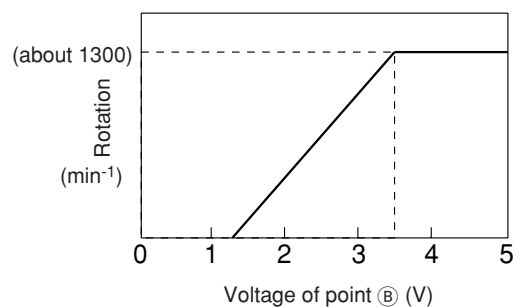

Fig. 6-3
- This pulse changes to analog voltage by R751 and C751 and it is applied to the fan motor as instruction voltage number of rotations. The relationship between the voltage of point B and number of rotations becomes as shown in Fig. 6-3. (The gap may arise depending on the condition of unit.)